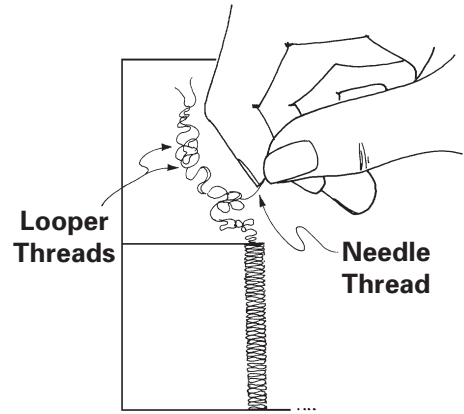

Fig. 25-2
1. Clip off one end of the seam thread chain and smooth out the thread tails on the other end. The shortest thread(s) will be the needle thread(s). (Fig. 25-2)